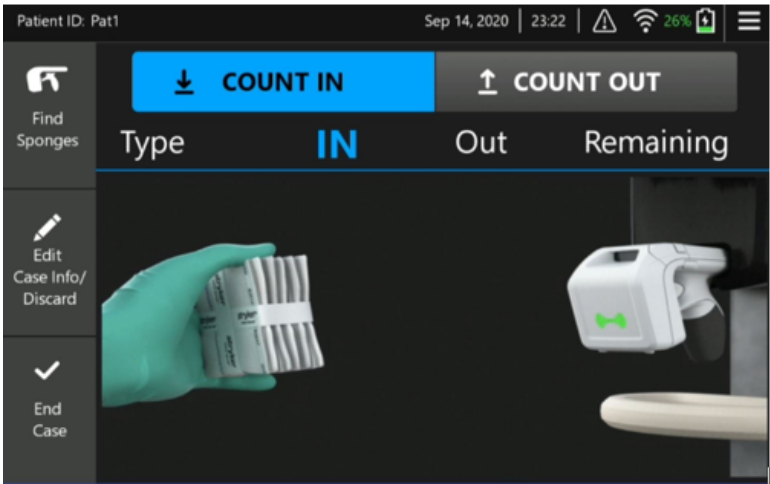

Figure 9 – Count IN Screen
1. If required, tap **COUNT IN** to navigate to the Count IN screen (Figure 9).
3. Present the sponge pack to the reader as shown (Figure 9).